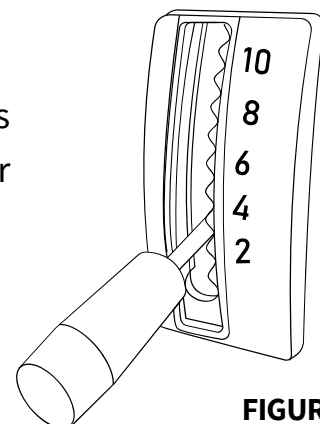

FIGURE 7
4.3.2 The volume control lever [**FIGURE 7**] adjusts the amount granular chemicals that leave the tank. In the down position no granular chemicals will spread. In the up position the maximum amount of granules will exit the fertilizer spreader.